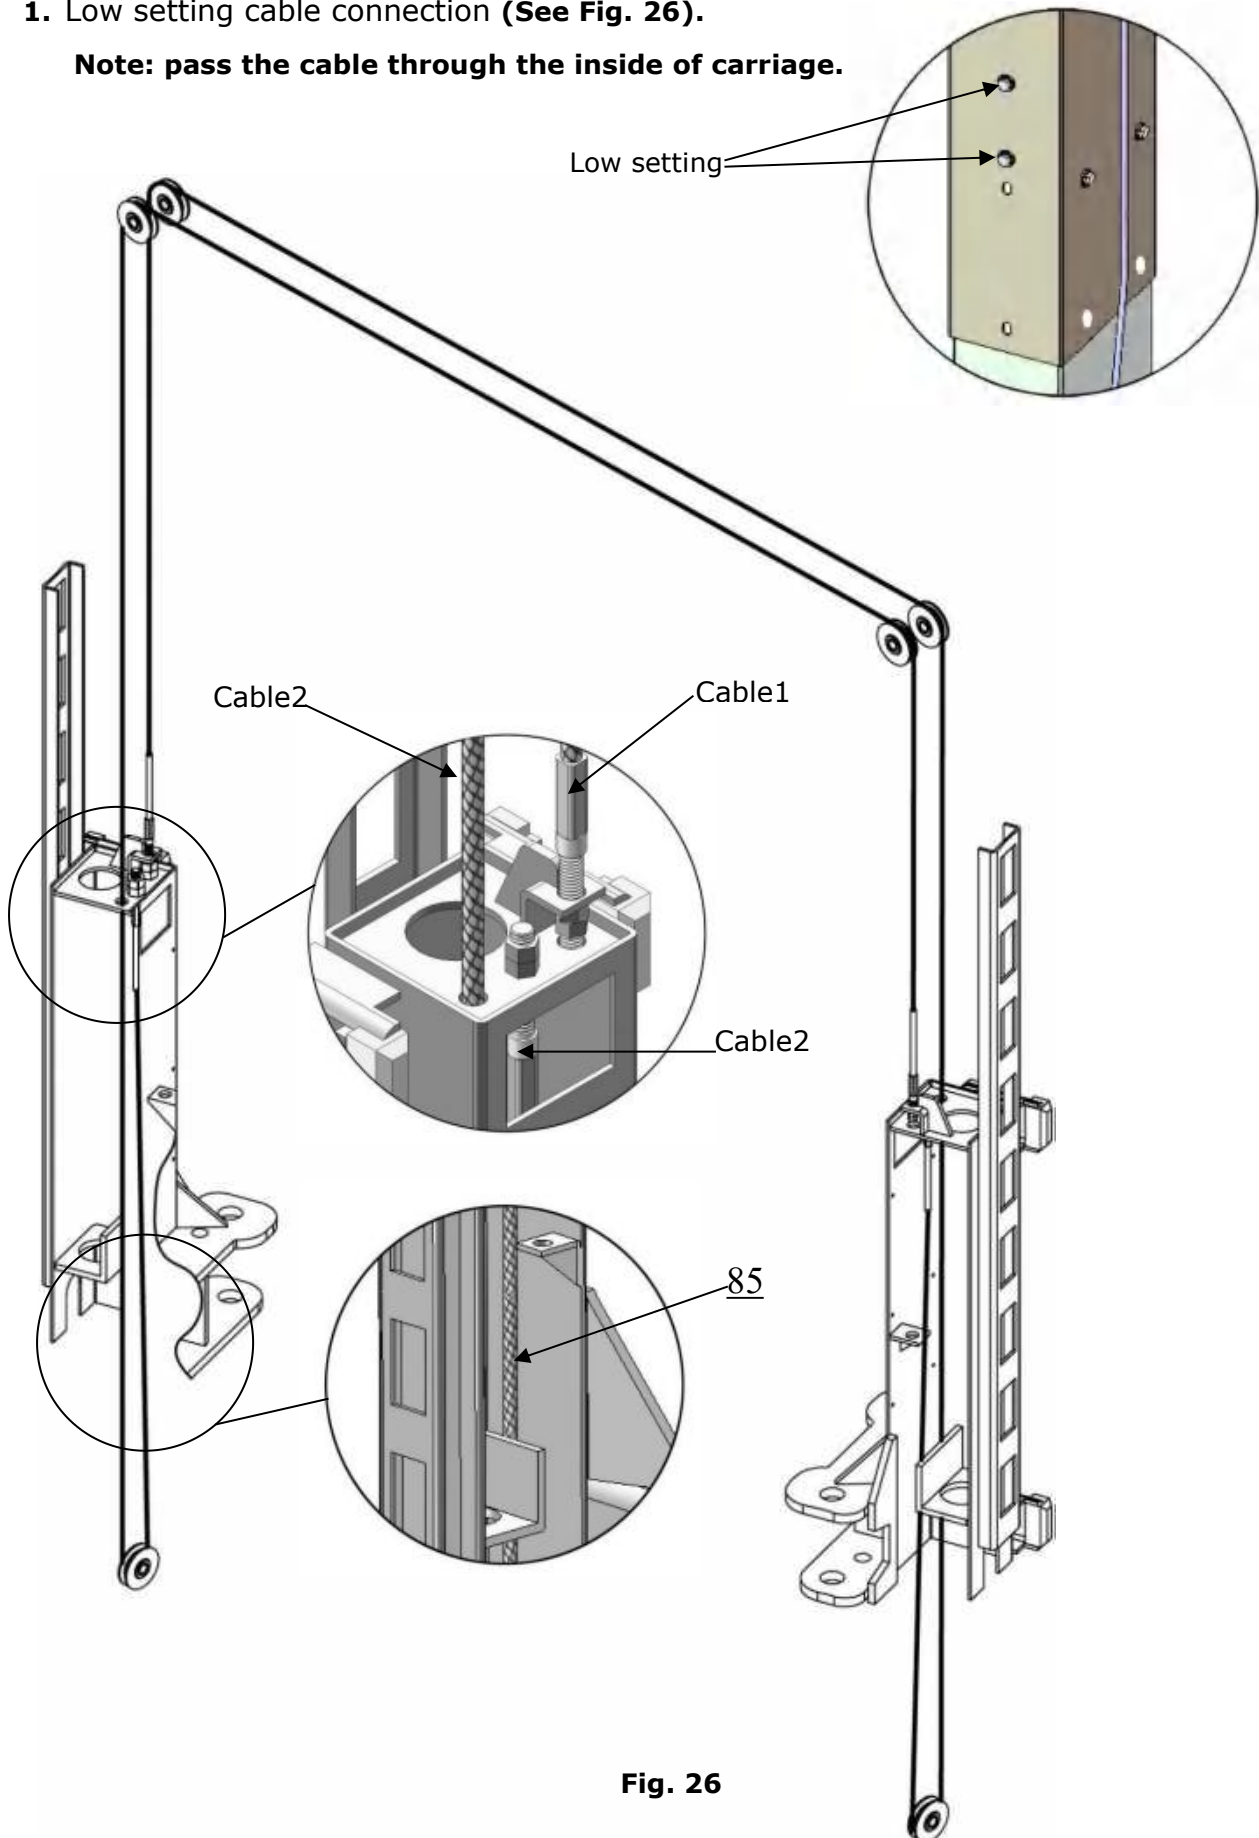

Fig. 26
1. Low setting cable connection (See Fig. 26).